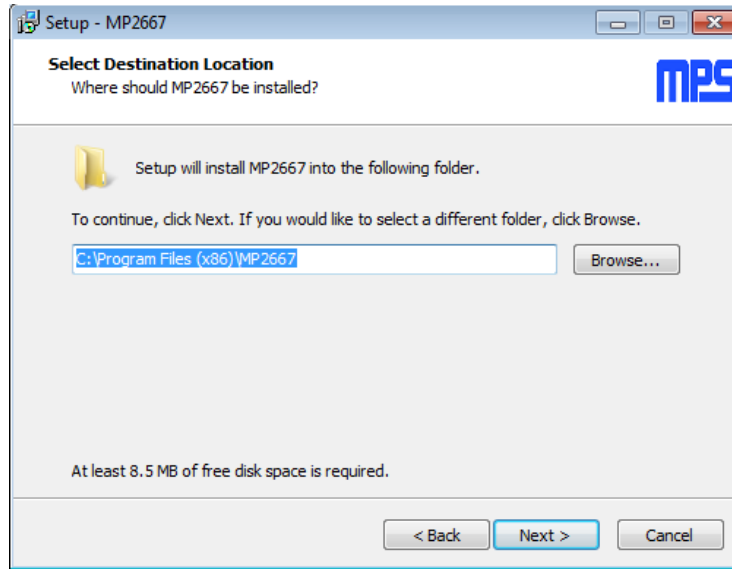

Figure 4: I2C GUI Set-Up Guide
2. Double-click the .exe file to open the set-up guide (see Figure 4). If a protection window comes up, click “More info,” then click “Run anyway.”